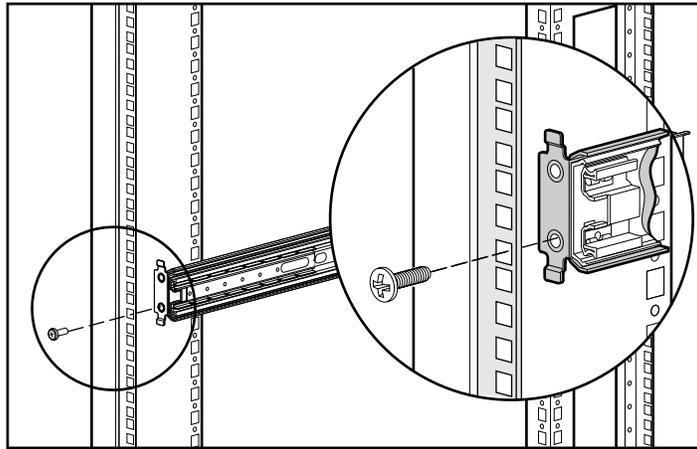

Figure 3-10. Attaching mounting bracket assembly to the front of the rack
**IMPORTANT:** Use only the bottom hole of the bracket as shown in Figure 3-10.